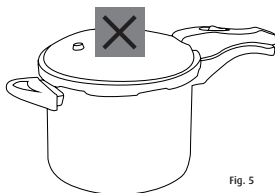

Fig. 5
- It is forbidden to put any object on the pressure regulating valve (Fig. 5)